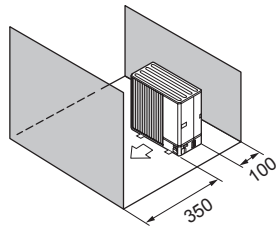

Fig. 4-28
- ⑤ Obstacles at front and rear only (Fig. 4-28)